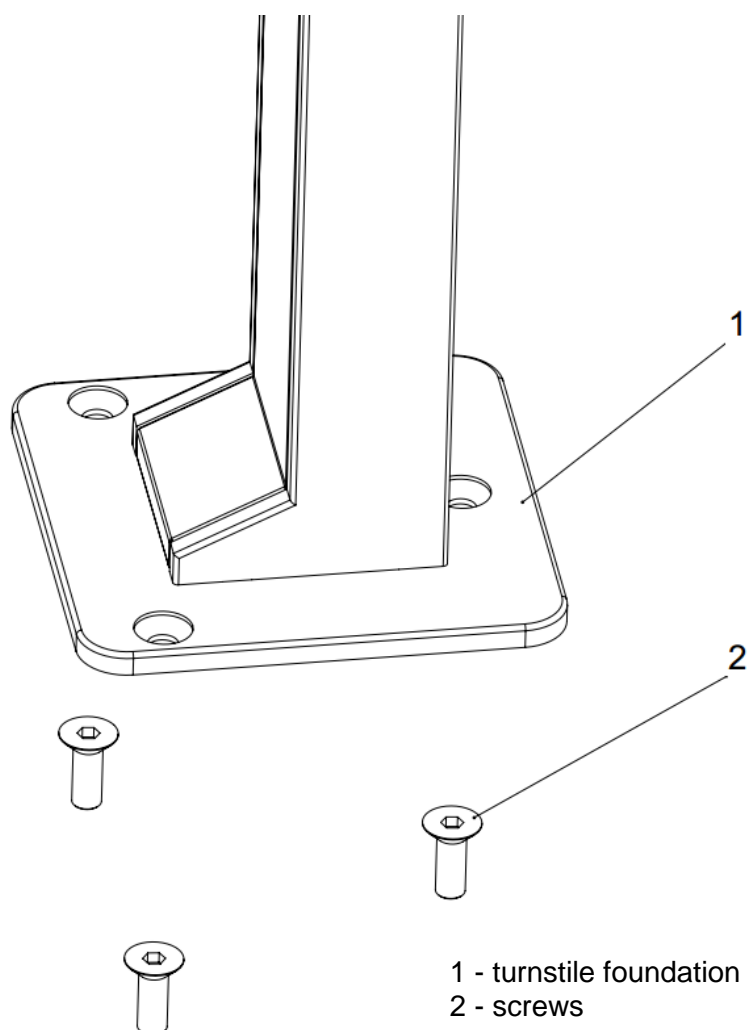

Figure 6 – Preparation to install the turnstile
4.2.8 Align the holes in the turnstile stand with the floor anchors (Figure 6 – 1).
Fix the turnstile stand with three screws (Figure 6 – 2) by screwing them into the appropriate anchors using S5 key for the screws with an internal hexagon.